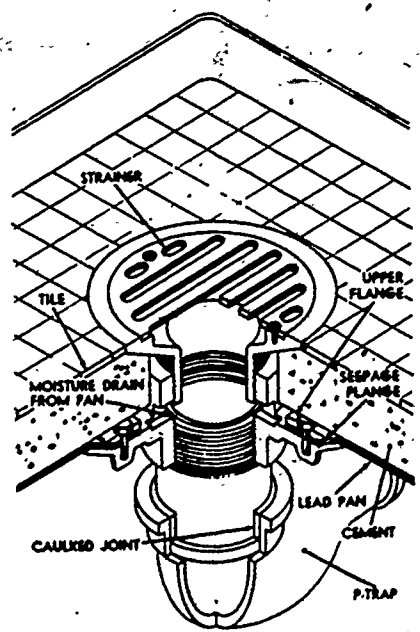

Figure 2. Cutaway View of a Shower Drain Installation
4. Install shower base (see figure 2).